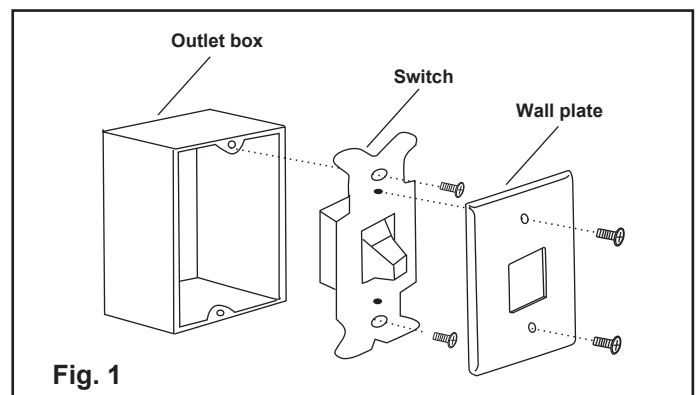

Fig. 1
1. Turn power OFF at fuse box or circuit breaker and remove the existing wall plate and switch, do not remove wires before noting their position. (Figure 1).